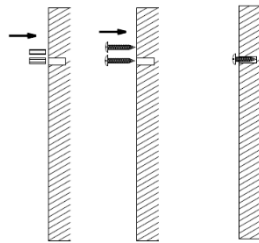

Figure 7
- Insert the two wall plugs into the drilled holes respectively, as shown in Figure 7.
- Screw the two screws into the wall plugs, but do not fully tighten them. Leave a section of approximately 1.5-2mm exposed to facilitate the hanging of the fan, as shown in Figure 7.